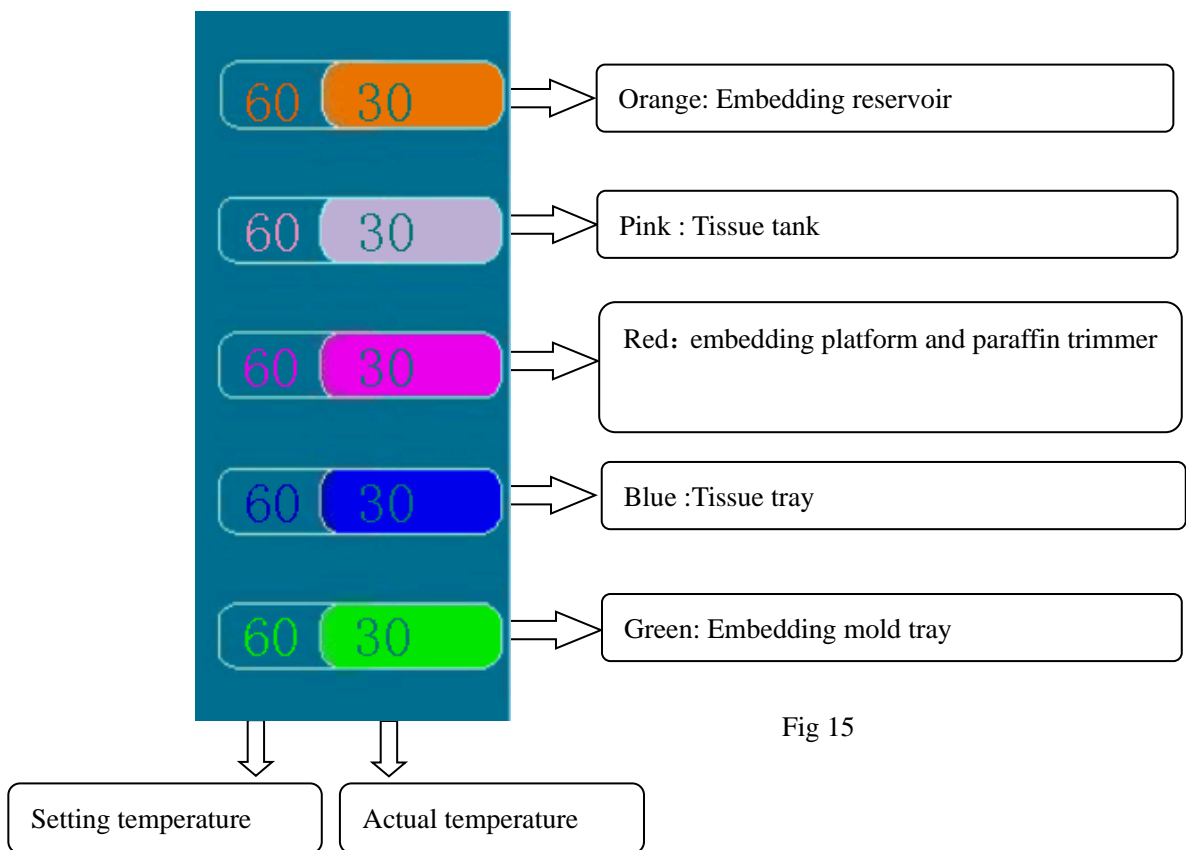

Fig 15
On Fig12 ,the line A temperature control indicates the temperature of each part in module <one> the line B temperature control bar indicates the temperature of each part in module<three> The orange in the top line indicates the temperature of embedding reservoir<two> . Each color indicates the corresponding part as follows(Fig15) :
- (5) 、 Temperature Control of Internal Pipeline and electromagnetic valve: Click on the area <one> <two> <three> in Figure 12 to enter the temperature control interface of pipeline and electromagnetic valve, which includes setting and displaying the temperature control parameters of paraffin reservoir and pipeline and valve of embedding center, as shown in Fig 15.